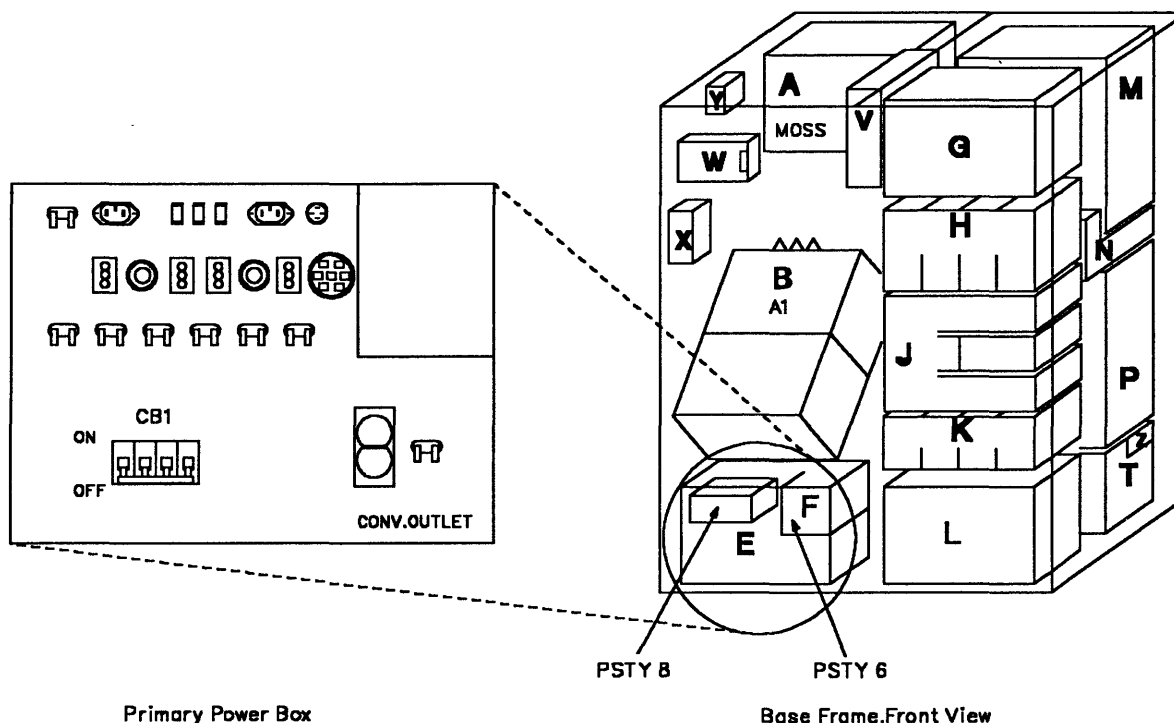

Figure 5-152. Primary Power BOX in Frame 01
3. Switch CB1 OFF. Refer to Figure 5-152 for the location of the CB1.